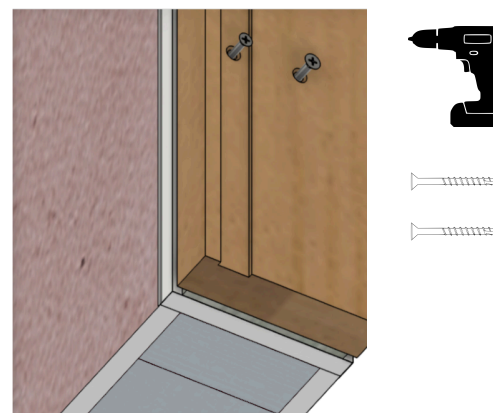
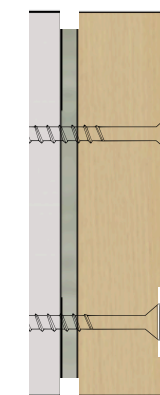

Fig.22
Fig.23
Step 7. Insert RCD Pre-assembled Doorset into the Prepared Cavity. Set and secure one jamb leg plumb. Shim and fasten the opposite leg to achieve proper alignment. Screw placements as Fig.22 and Fig.23.
Fixing screw positions shall be a minimum of 150 mm from the top and bottom of the inside frame, with a maximum spacing of 400 mm between screw centres (Fig.22, Fig.23)